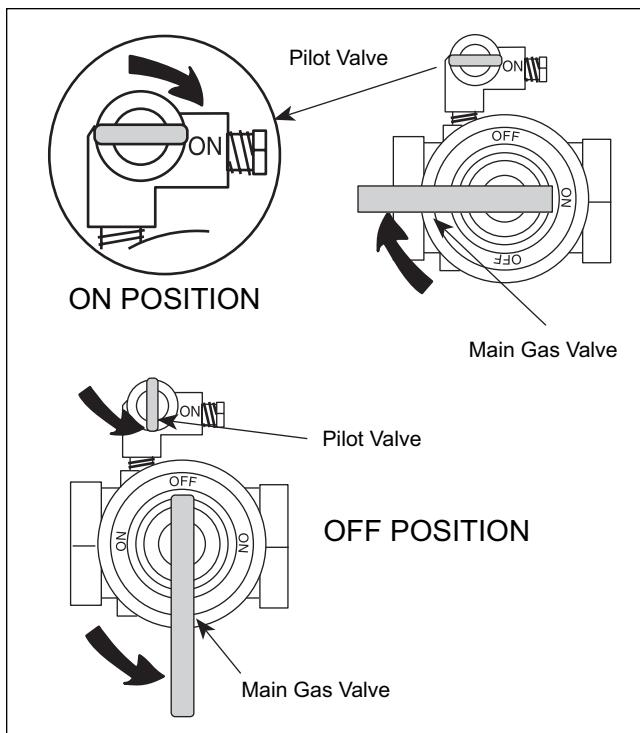

Figure 14 - Manual Gas Valves.
- b. Turn off all manual gas valves and wait five minutes (Figure 14).
**Systems 4, 9, and 11** - (intermittent ignition). With this system pilots are automatically lit when the operating controls call for heat. If the pilot flame fails for any reason, the main valve is shut off within one second and the pilot spark ignition is initiated until the pilot flame has been reestablished. This sequence should be checked by turning off the manual pilot gas valve (see Figure 14), and, at the same time, monitoring the audible sparking at the pilot burner and signal interruption to the main valve.
**System 16** - (electronically supervised standing pilot system). Extinguish the pilot flame by placing the manual pilot valve in the closed positions (see Figure 14), and at the same time, begin recording the time it takes for the output signal from the electronic ignition control to be interrupted. The signal interruption can be detected either with a test light or a voltmeter. The response time should never exceed one second.